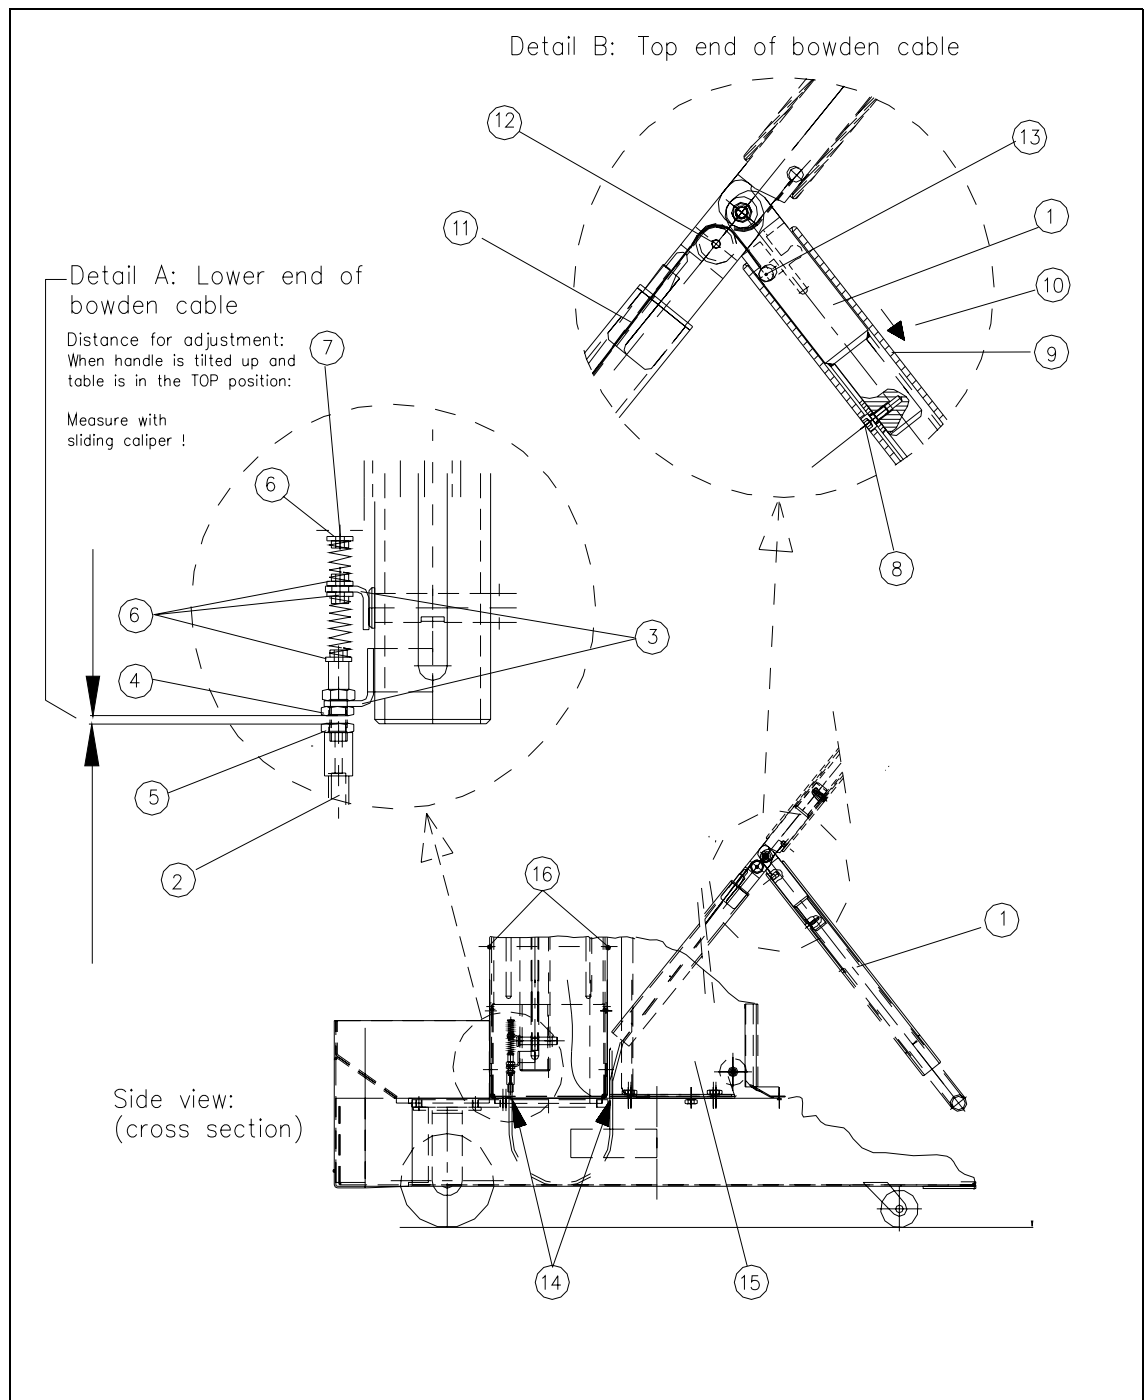

Fig. 9.5.5 Removing / Installing the Bowden Cable
Key to Fig. 9.5.5:
→ Use sliding calipers to ascertain the exact distance between the bottom hex nut on the retaining bracket and the adjusting nut for the Bowden cable (see Fig. 9.5.5: Detail A -> 4, 5) and record this dimension.
- Simultaneously slide the actuator tube up to the stop on both sides and lower the handle (see Fig. 9.5.5 -> 1, 9).
- It may be necessary to move the tape container to gain access to the 2nd fastening screw for the internal cover on the frame (see Fig. 9.5.5 -> 16):
- Loosen the screws fastening the internal cover on the frame (two M4 socket hex head cap screws: see Fig. 9.5.5 -> 16). Remove the internal cover.
- The next step is to relieve the tension on the bottom end piece of the Bowden cable (see Fig. 9.5.5, Detail A):
To do so, loosen the locknut (hex nut: see Fig. 9.5.5 -> 4; size 8 metric open-end wrench) on the bottom retaining bracket.
- Loosen the screw on the bottom of the lowered handle (see Fig. 9.5.5, Detail B -> 8). The activator tube will slide all the way to the end of the handle (-> 9, 10).
- Disengage the Bowden traction cable at the handle's point of rotation by pulling the little plastic wheel, including the cable, out toward the inside of the handle (see Fig. 9.5.5 -> 11, 12).
- Push the "Top" end piece (using a pin, for example) toward the inside of the handle and out of the slot (see Fig. 9.5.5: Detail B -> 13).
- From below, thread the Bowden cable out of the cutouts in the frame of the changeover table (see Fig. 9.5.5 -> 14).
- To fasten the Bowden cable, tighten the hex nut under the bottom retaining bracket (see Fig. 9.5.5: Detail A -> 4).
- For the time being, just hand-tighten the hex nut below the hex nut in the preceding step (see Fig. 9.5.5: Detail A -> 5).
- Push the "Top" end piece into the slot in the lowered handle (see Fig. 9.5.5: Detail B -> 13).
- From the bottom of the handle, screw the M4 socket head hex cap screw back in (see Fig. 9.5.5, Detail B -> 8).
- Turn the bottom hex nut (see Fig. 9.5.5, Detail A -> 5) to adjust the Bowden cable until the you have restored the exact distance measured between it and the hex nut above it prior to disassembly.